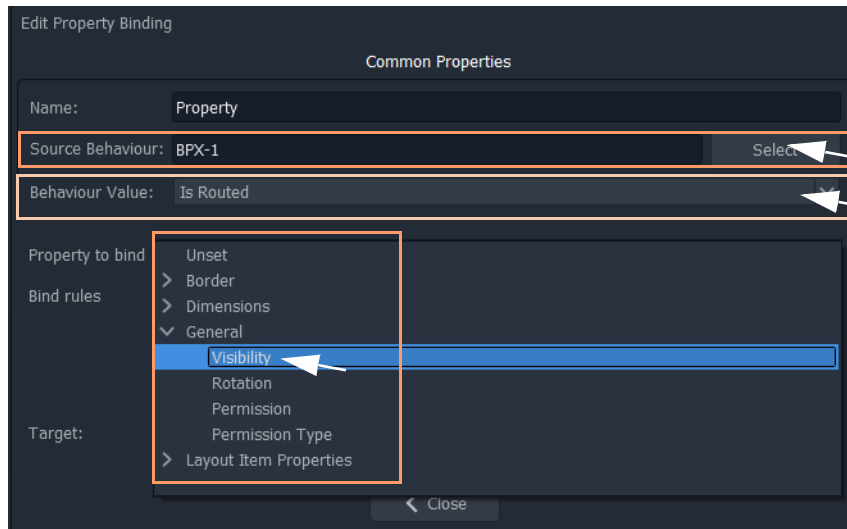

Fig. 12-62: Added Property Binding
- 6 Change the following **Property** Binding property values: (See Figure 12-62.)